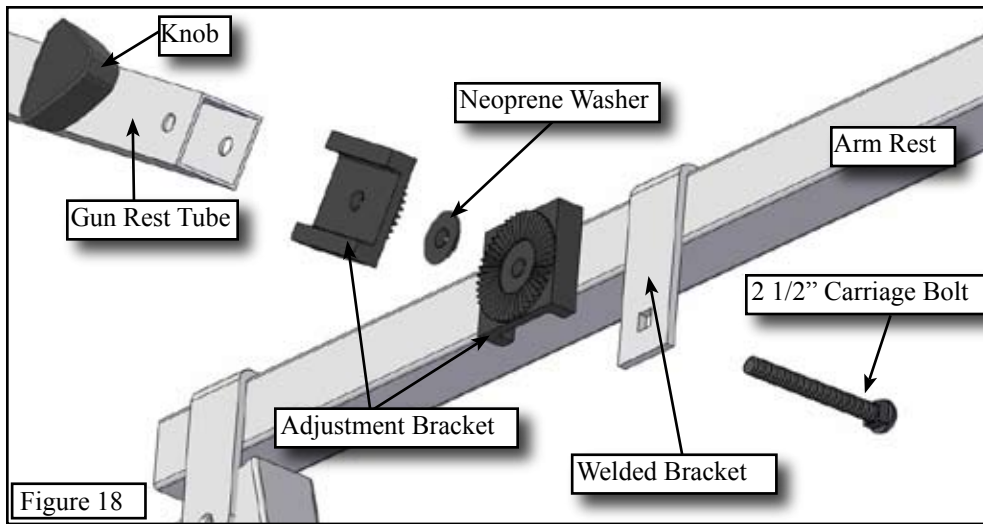

Figure 18
Step 2. Use **Figure 18** for exploded view. Run one 2 1/2" carriage bolt from the inside of the Arm Rest through the welded bracket on the Arm Rest.